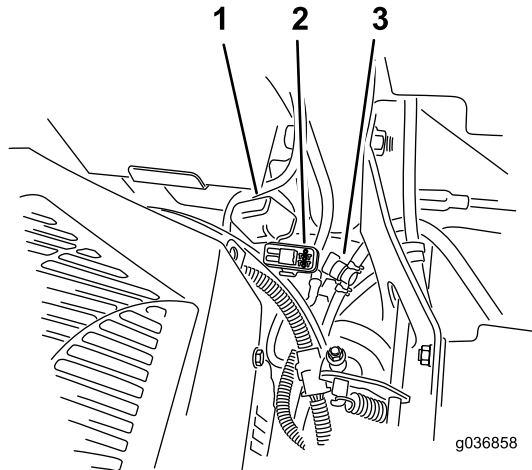

Figure 53
Note: For MyRide machines, ensure that the ground cable does not rub against the trailing arm or lower shock mount (Figure 53).
The fuses are located on the right console next to the seat (Figure 53).
2. Install a new fuse (Figure 53).